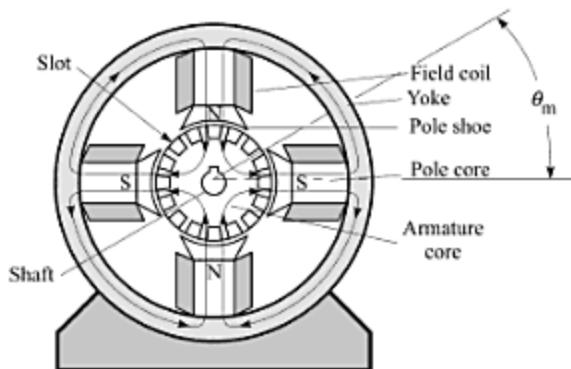
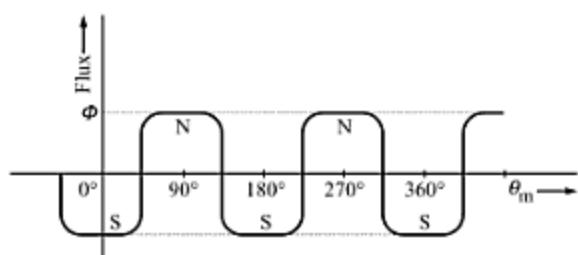

Fig. 16.1 Main parts of a dc machine.
Fig. 16.2 Magnetic flux distribution for four-pole dc machine.
Figure 16.1 shows the basic structure of a dc machine (a motor or a generator). The machine has following important parts.
Figure 16.1 shows the magnetic structure of a four-pole dc machine. Its main components are described below.
**(iii) Field Coils** The field coils are wound on the pole cores and are supported by the pole shoes. All coils are identical and are connected in series such that on excitation by a dc source, alternate N and S poles are made. Thus, a machine always has even number of poles. The magnetic flux distribution approximates a square wave, as shown in Fig. 16.2 for the four-pole structure shown in Fig. 16.1. The flux is taken positive in the radially inward direction. Note that the yoke carries one-half of the pole flux  $\Phi$ . Therefore, the cross-section of the yoke should be selected accordingly.